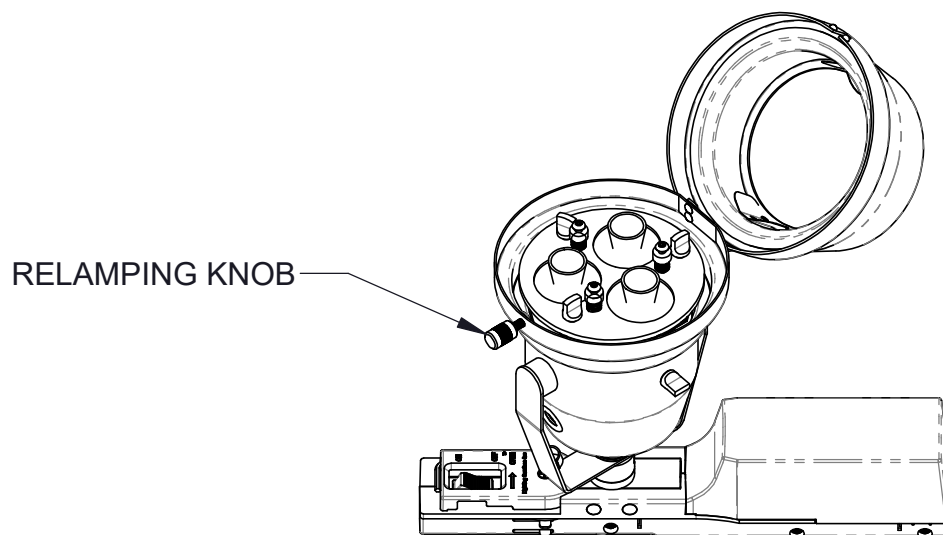

FIGURE 8. FIXTURE OPENED
2. OPEN THE FIXTURE VIA THE RELAMPING KNOB (FIG. 8).